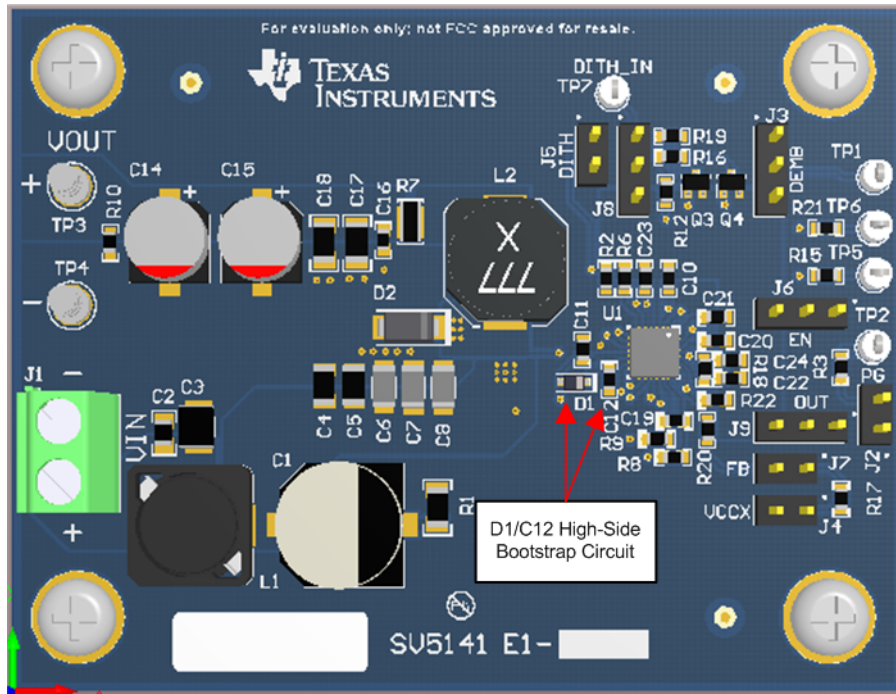

Figure 38. EVM Top Side
- Locate the gate drive components (D1 and C12) together and near the controller IC; refer to Figure 38. Be aware that peak gate drive currents can be as high as 4 A. Average current up to 75 mA can flow from the VCC pin to the  $V_{CC}$  capacitor through the bootstrap diode to the bootstrap capacitor. Size the traces accordingly.